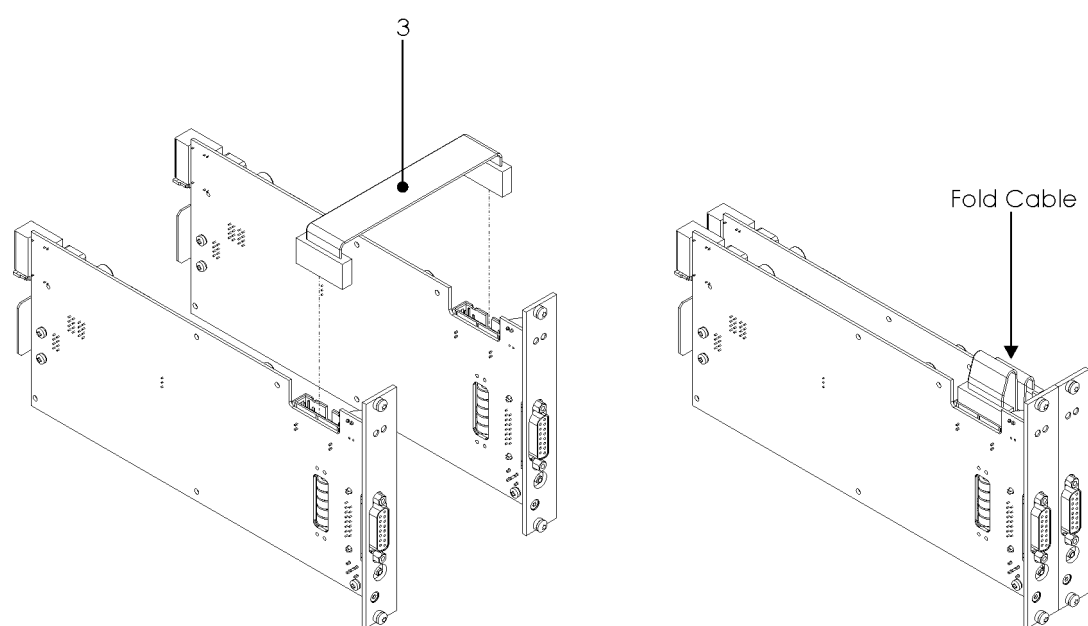

Figure 160 Connecting the two CC-5000 modules
2. Connect the two CC-5000 modules via the supplied cable (3). Fold cable (3) as shown in Figure 160, right.